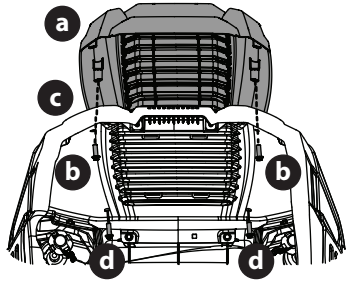

Fig. 9
2. Secure the screw-on hood topper (a) from below, hand-tighten the screws (b) on the rear half of the hood and then snug them (Fig. 9).
3. With the rear screws in place, align the holes in the hood topper (a) with the holes in the hood (c) and secure in place with remaining two screws (d) (Fig. 9).